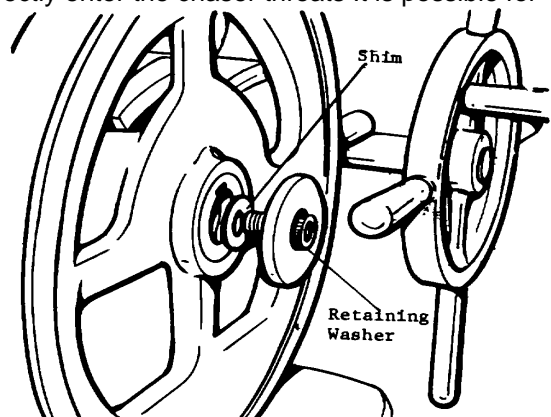

Figure 11
(3) The correct vise screw end play is obtained through the use of shims, Figure 11. To correct excessive end play, the thickness of the shim between the vise screw and handwheel should be reduced. A clearance of .003" to .005" between the face of the handwheel retaining washer and the machined face of the handwheel is recommended to allow sufficient clearance and prevent binding of the handwheel assembly.
(4) All carriage fronts must be centered with the die head's center of rotation after an adjustment to the vise screw has been made. See Adjustments-Carriage Fronts.